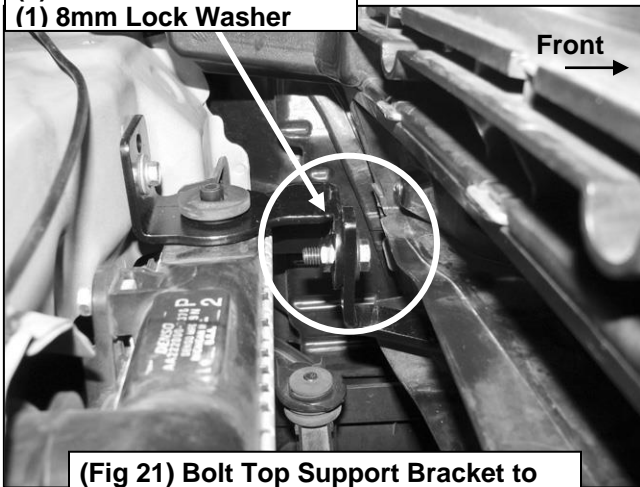

Fig 19
- b. Cut out the slot as marked, **(Figure 19)**. Insert the driver side 2012-13 Top Support Bracket through the slot in the trim piece, the slot in the grille and line it up with the Top Bracket, **(Figure 20)**. Bolt the Support Bracket to the Top Bracket as previously described in **Step 11b**. **NOTE:** Leave the screws out of the cross bar trim at this time.